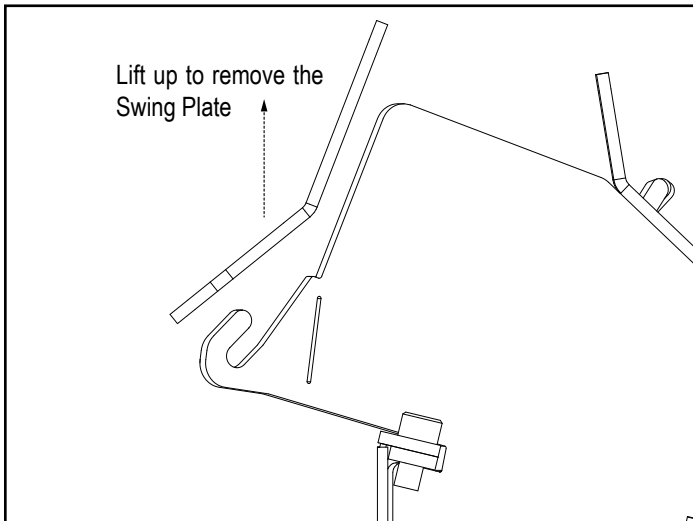

Figure 1
3. Remove the Swing Plate. Figure 1.